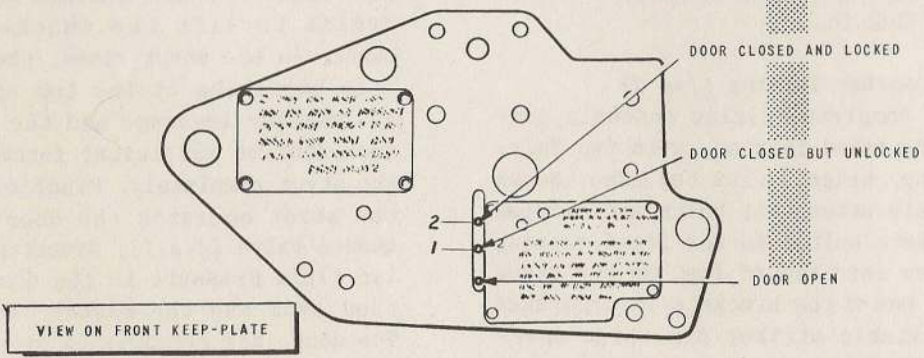

FIG. 4. MICROSWITCH LATCH MECHANISM
▶ ◀ One of the slave units incorporates a microswitch which is in circuit with the undercarriage position indicator, and the other slave unit is a simple mechanical lock. All three units are mounted on the wheel-well wall and incorporate hooks which engage the rollers on the door when it is closed. A manual-release stud, fixed to the latch hook of the microswitch unit (fig.4), enables the locking mechanism to be released manually from outside the wheel bay during servicing; access is gained through a small panel in the undersurface of the main plane, directly below the unit.
#### Microswitch latch unit (fig.4)